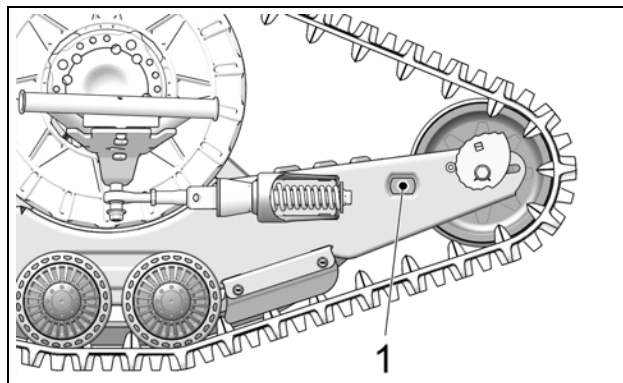

Figure 4
- A Bubble Level (1) is attached to the inside of the front frames. A perfectly centered bubble is needed to adjust the angle of attack correctly. See Figure 4.